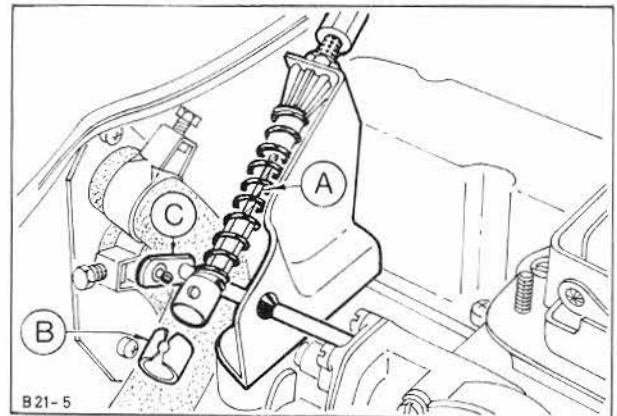

Fig. 65. Unhook throttle cable at throttle linkage.
3. Unhook throttle cable at throttle linkage, Fig. 65, and remove from bracket. Disconnect choke cable at carburettor.